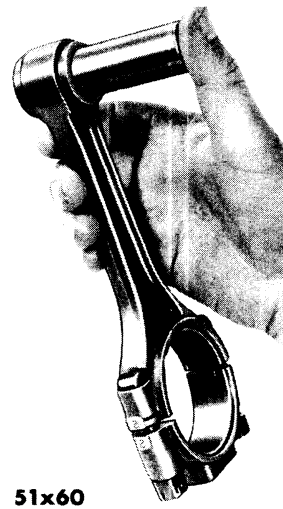

Fig. 38—Fitting Piston Pin In Connecting Rod
- (1) Test piston pin fit in the connecting rod, as shown in Figure 38. This should be a tight thumb-press fit at normal room temperature.